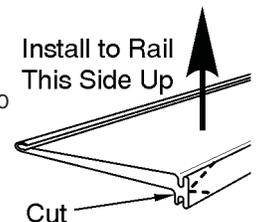

Figure 3
- 1) Lubricate the "T"-shaped channel on the back of the aluminum rail (1) in preparation to install the rubber dust guard insert (9). Use liquid soap.
- 3) See **Figure 3**. The dust guard insert (9) must be oriented so the small curl at the edge of the guard faces up when the rail is installed.
- 4) Pull the dust guard insert (9) into the channel of the aluminum rail, leaving 3" of excess rubber at each end of each section of rail.